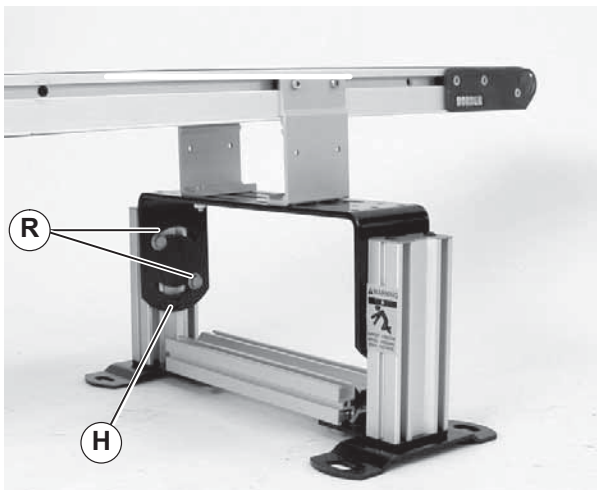

Figure 14
1. Loosen mounting bracket (Figure 14, item H) flange head hex screws (R).